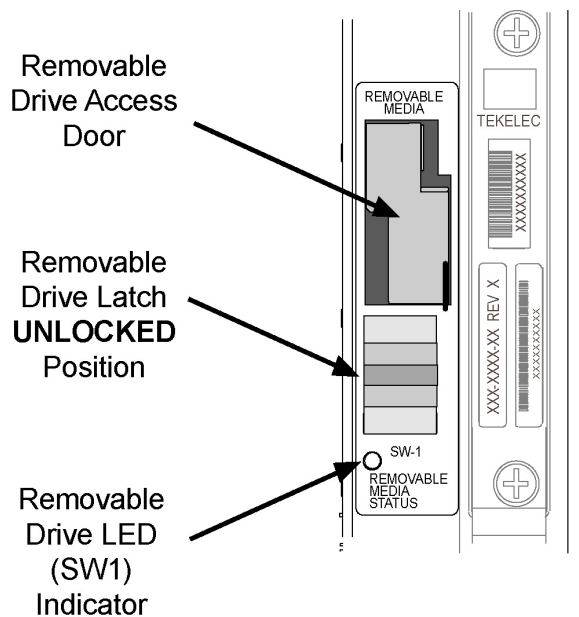

Figure 14: Removable USB Drive UNLOCKED
2. Move SW1 from the LOCKED to the unlocked position and wait for the LED to indicate a steady blue state. See Figure 14: Removable USB Drive UNLOCKED.